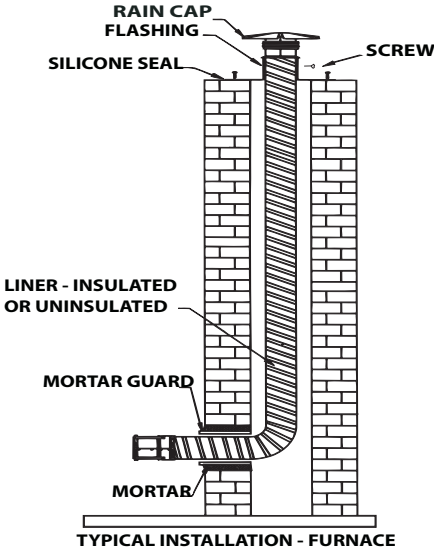

Fig. 1
7. Using the rope attached to the Nose Cone*, guide the liner down the chimney through the inlet opening. Allow approximately 1 foot of liner to extend out of the basement wall. (**Models GAK & GIAK** see figures 1 & 2, page 7)